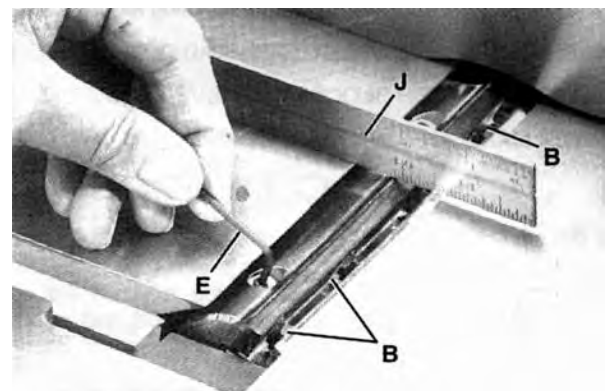

FIGURE 52
13. Lower the infeed table and place a straight edge (J) Fig. 52, on the outfeed table extending over the cutterhead as shown.
14. Rotate the cutterhead by hand until the knife is at its highest point at each end of the cutterhead. To raise the knife, use hex. key (E) Fig. 52, and turn raising screw clockwise until the knife just touches the straight edge (J) on each end and center of the cutterhead when the knife is at its highest point. When you are certain the knife is adjusted properly, tighten the four locking screws (B) by turning them counterclockwise.